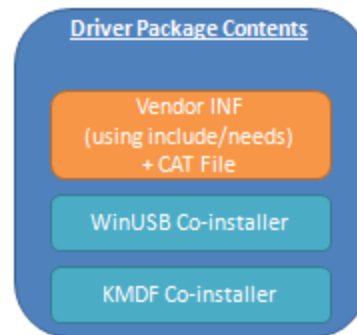

Figure 2. Example driver package contents
7. The x86 and x64 versions of Windows have separate co-installers. This example stores them on the installation disk in folders that are named i386 and amd64, respectively. Figure 2 (on the following page) shows an example of what an IHV's driver package might contain.